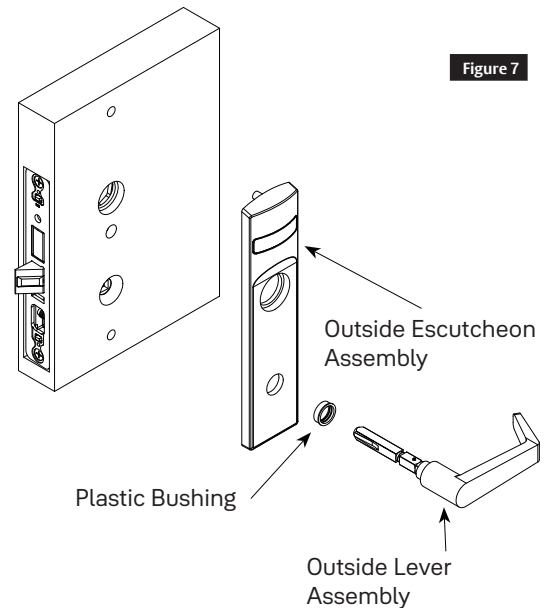

Figure 7
3. Slide outside escutcheon assembly on door and insert outside lever assembly and plastic bushing into lock body. Lever must be horizontal. (See Figure 7)